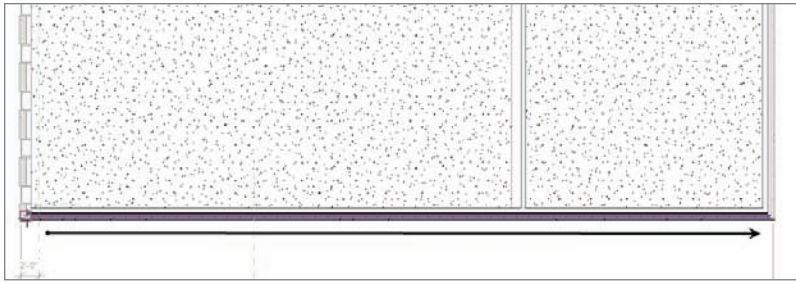

FIGURE 21.28 Drawing a new wall across the front of the building
10. Draw a wall across the front of the building, as shown in Figure 21.28.